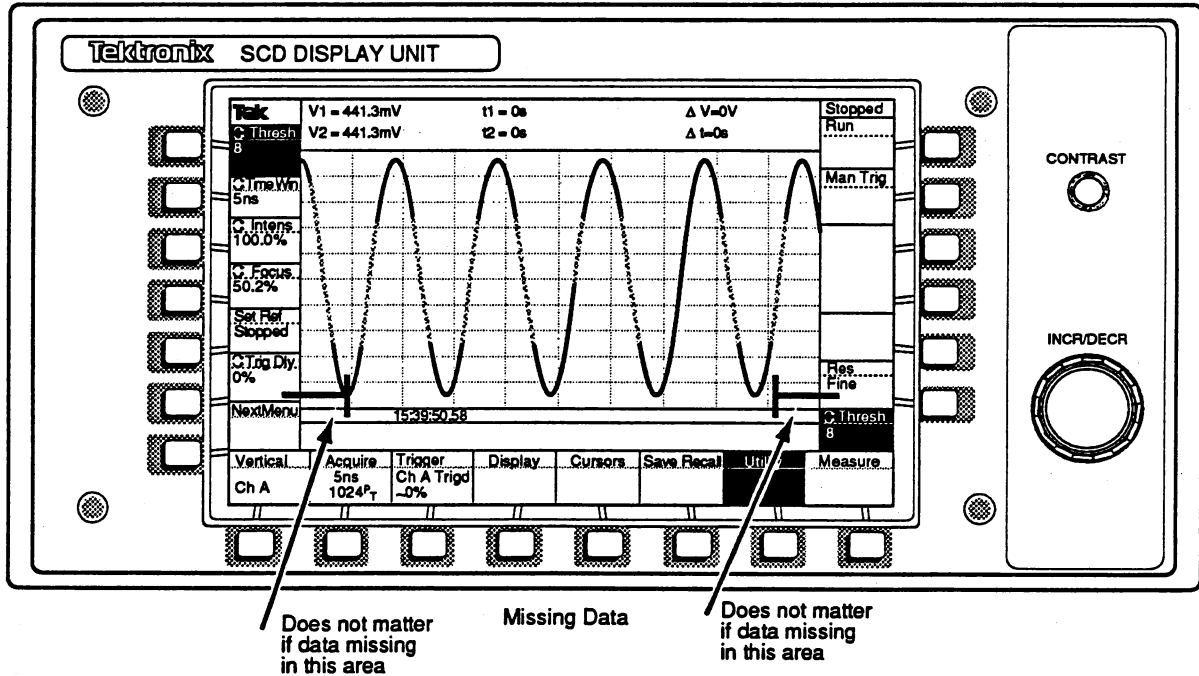

Figure 5-17: Writing Speed Adjustment
6. Verify that the trace is missing data for no more than 6.25% of the screen height at any one point, as shown in Figure 5-17. (Adjust the front-panel focus for the best results.) Note that the writing speed is not verified in the first 10% and the last 10% of the sweep window.